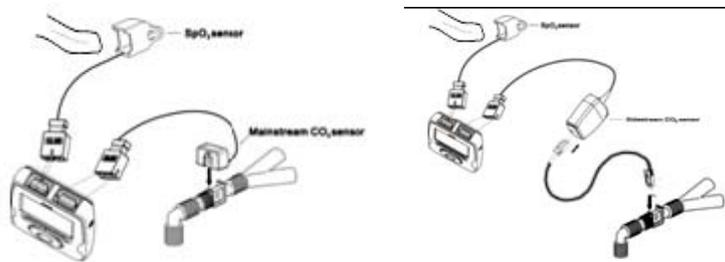

Figure 3-4: Installing Mainstream or Sidestream CO₂ sensor
2. Figure 3-4 shows how to connect mainstream or Sidestream CO₂ sensor.